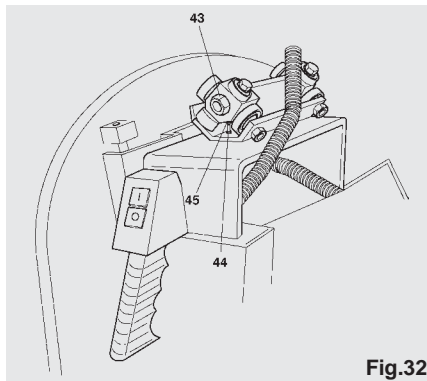

Fig.32
The play of the carriage on the slideways is removed during testing. If some plays are created during transport or working, they will have to be eliminated as follows (see figure 32): loosen nut (43) with the spanner provided and carry out the adjustment by turning screw (44) after loosening lock nut (45).